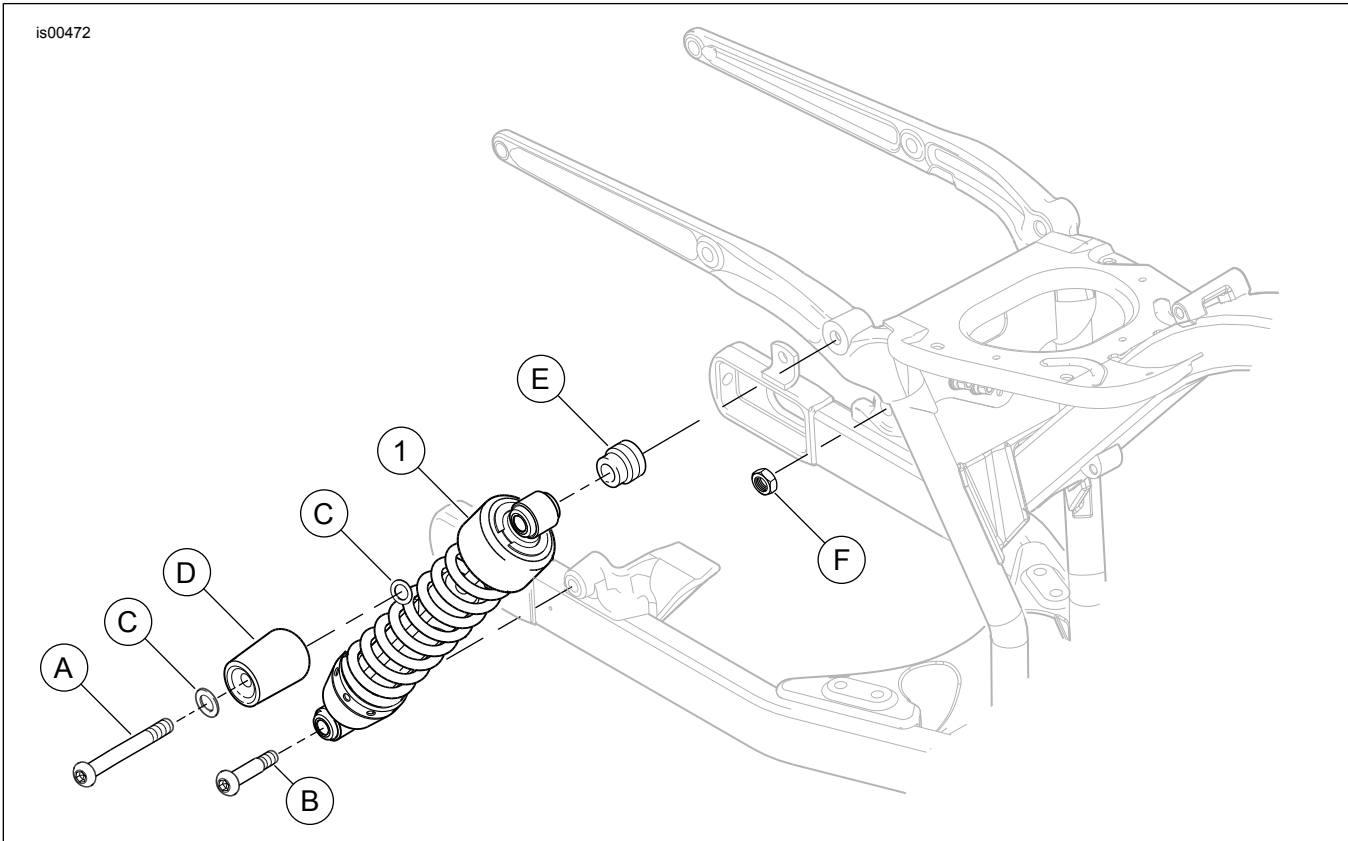

Figure 1. Service Parts for Dyna Rear Lowering Kit (Right Side Shown)
See Figure 1 and Table 1.
1. See Figure 1. Apply two to three drops of Loctite 243 (blue) to the threads of lower shock mounting screw (B), then install the new shock to the left side of the swingarm using the lower shock mounting screw and shock nut (F).
3. See Figure 1. Apply two to three drops of Loctite 243 (blue) to the threads of upper shock mounting screw (A), then fasten the new shock to the frame using the upper shock mounting screw, two washers (C), shock bolt cover (D) and upper shock spacer (E). Raise or lower the rear tire as necessary to ease installation. Repeat for opposite side.